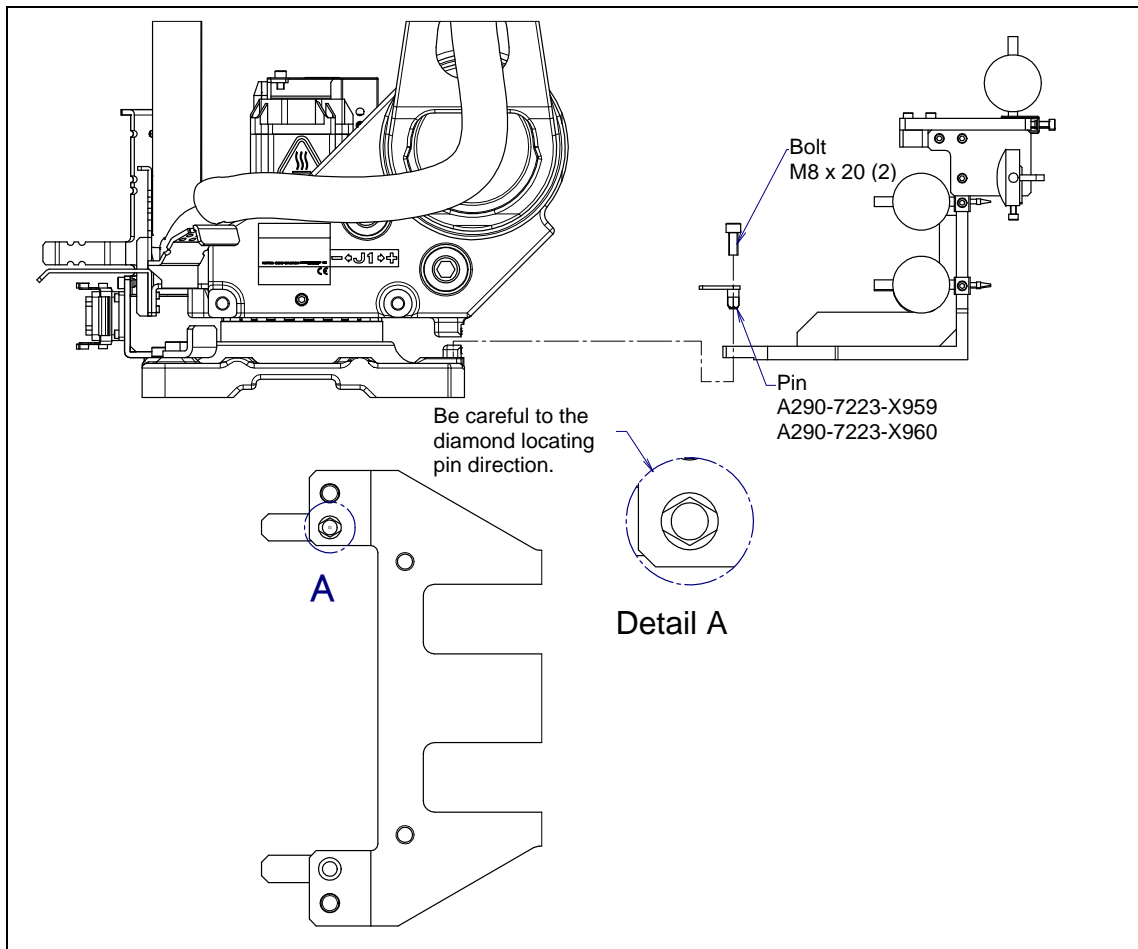

Fig.6.3 (c) Assembling the fixture base
- 4 Assemble the fixture to the wrist flange as shown in Fig. 6.3 (d).